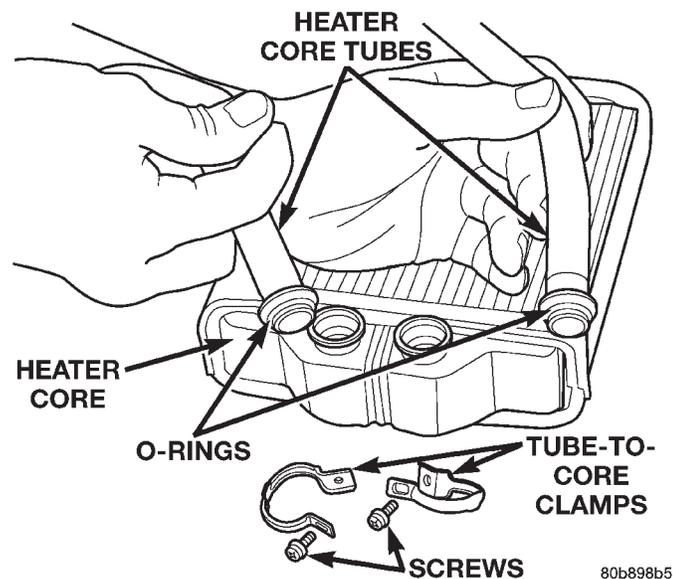

Fig. 53 Heater Core, Tubes, O-rings
(1) When installing individual tubes, insert tube into core ensuring that tube O-ring is seated in core and not pinched. Hold tube in seated position while installing the round tube-to-core clamp (Fig. 53).